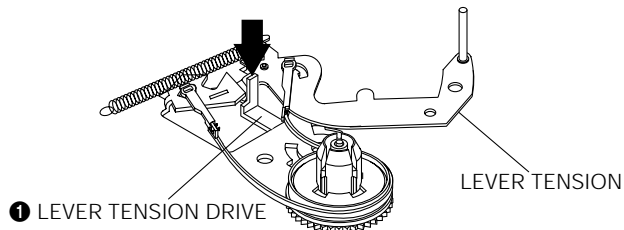

Fig.4-5-12
2. Push the lever tension drive ❶ in the direction of arrow. (See Fig. 4-5-12)